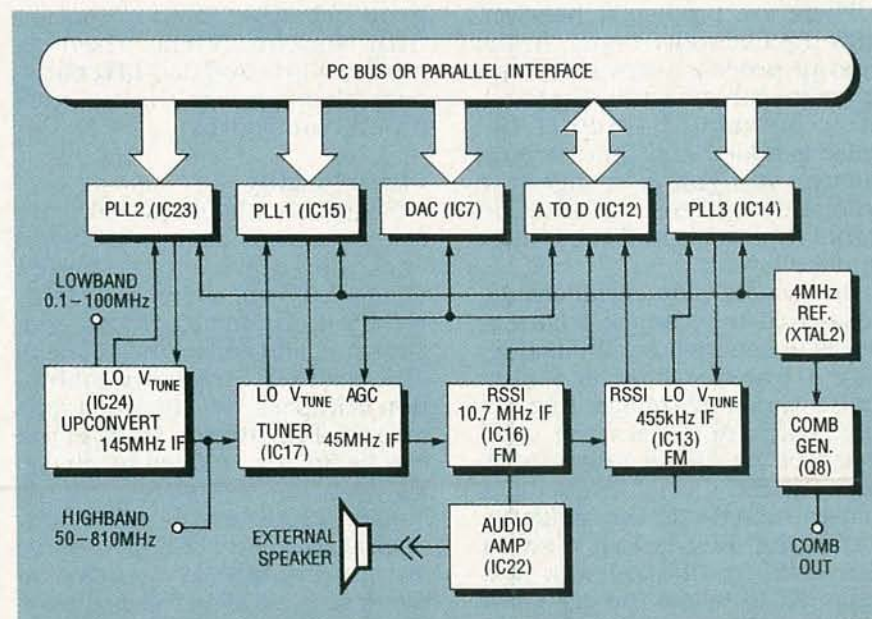
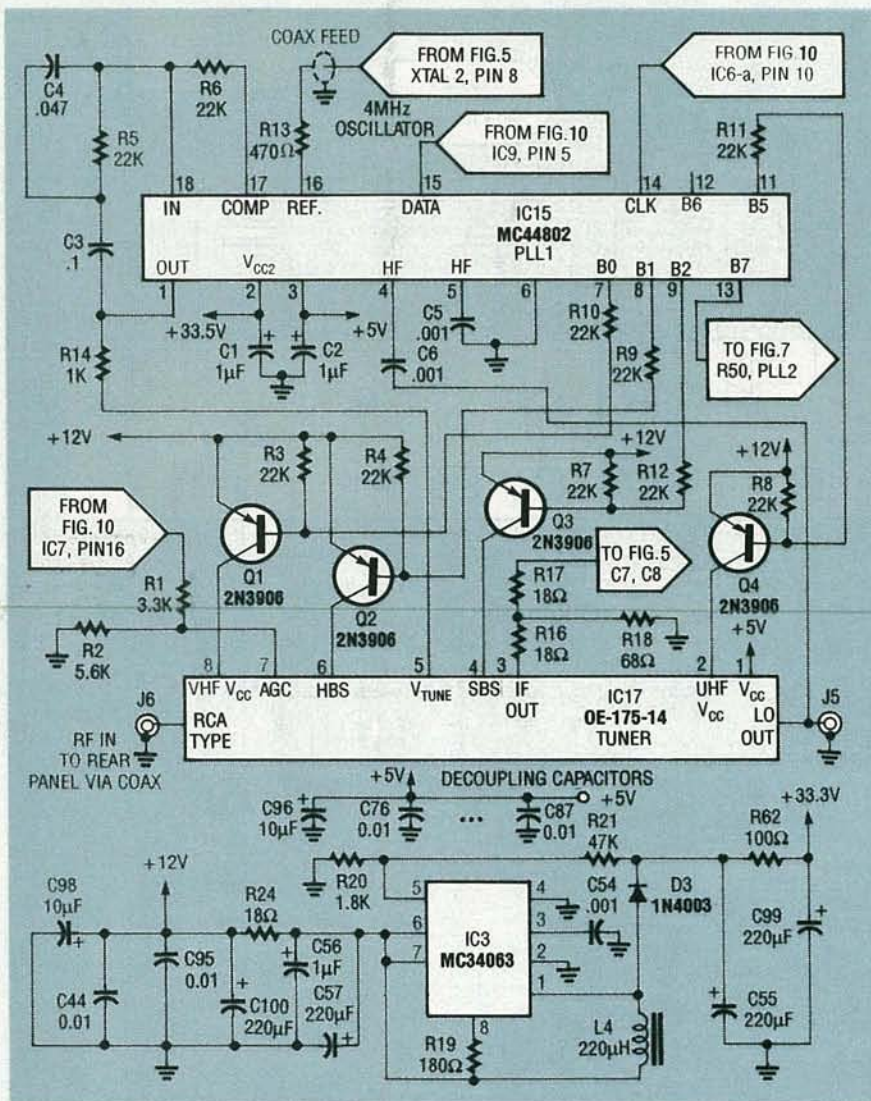

FIG. 3—A BLOCK DIAGRAM OF THE SPECTRUM ANALYZER shows the tuner module, phase-locked loops, receiver blocks, DAC, ADC, and the PC bus connection.
FIG. 4—THE FIRST 45-MHz IF STAGE. The tuner takes highband inputs from 50–810 MHz and converts them to 45 MHz.
Figure 3 shows the overall block diagram of the spectrum analyzer. At the heart of the unit is a Zenith tuner module (IC17). The tuner takes highband inputs from 50 to 810 MHz and converts them to a 45-MHz IF, which is the first IF stage. After that conversion, the first of two Signetics NE615 receiver IC's (IC16) downconverts the 45-MHz IF to a 10.7-MHz IF, which is the second IF stage. The 10.7-MHz IF is tapped off and sent to another NE615 (IC13) where the 10.7-MHz is downconverted to the standard 455-kHz IF, which is the third IF stage.
Figure 4 shows the circuit of the first 45-MHz IF stage. Of the four local oscillator's (LO's) used, three are phase-locked using Motorola's MC44802 IC (IC14, IC15, and IC23). The LO for the 10.7-MHz IF is crystal-controlled by XTAL1. The PLL's used for the tuner IC also perform band switching, which will be discussed in more detail below. Those PLL's are self contained and have a serial interface. A 4-MHz crystal oscillator (XTAL2, Fig. 5) is used as a common reference for all the PLL's, as indicated in the block diagram (Fig. 3).
As shown in the block diagram (Fig. 3), an 8-bit DAC (IC7) controls the automatic gain control (AGC) input of the tuner. AGC cancels out gain variations and provides signal attenuation. An 8-bit shift register (IC8) is used to provide IC7 with a serial interface to the host PC.
width, follows the mixer. The local oscillator (LO) must be 45 MHz above the input signal to mix to the 45-MHz IF. For the 50 to 810-MHz bandwidth, the tuner VCO must have a range of 95 to 855 MHz. The LO from the tuner is internally buffered and is sent to PLL1 (IC15, Fig. 4) for frequency locking.
The 45-MHz IF is fed through a 6-dB attenuation pad (R16–R18, Fig. 4) and a tuned circuit to the mixer for the 10.7-MHz IF. The attenuation pad is used to reduce signal gain from the tuner and to provide a wide-band termination for the output of the tuner mixer. The tuned circuit, consisting of L1, C8, and C7 (as seen in Fig. 5), acts to match impedance, filter, and to adjust the voltage gain. The tuning of L1 (Fig. 5) affects the overall gain and noise floor of